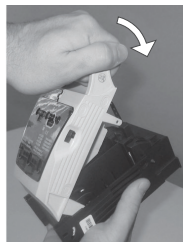

Figure 2
- Take the handle and close the cover up to firm resistance (Figure 2).